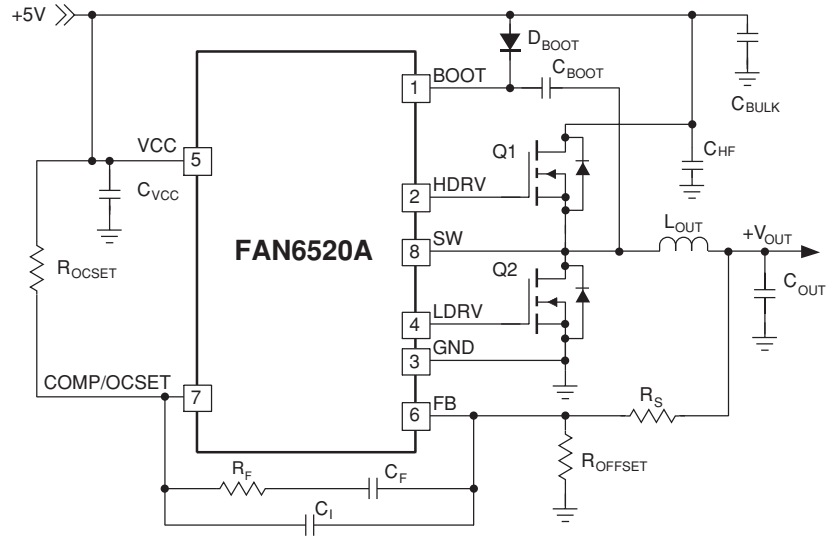

Figure 1. Typical Application
**Electrical Specifications**  $V_{CC} = 5V$ , and  $T_A = 25^{\circ}C$  using circuit in Figure 1 unless otherwise noted. The • denotes specifications which apply over the full operating temperature range.